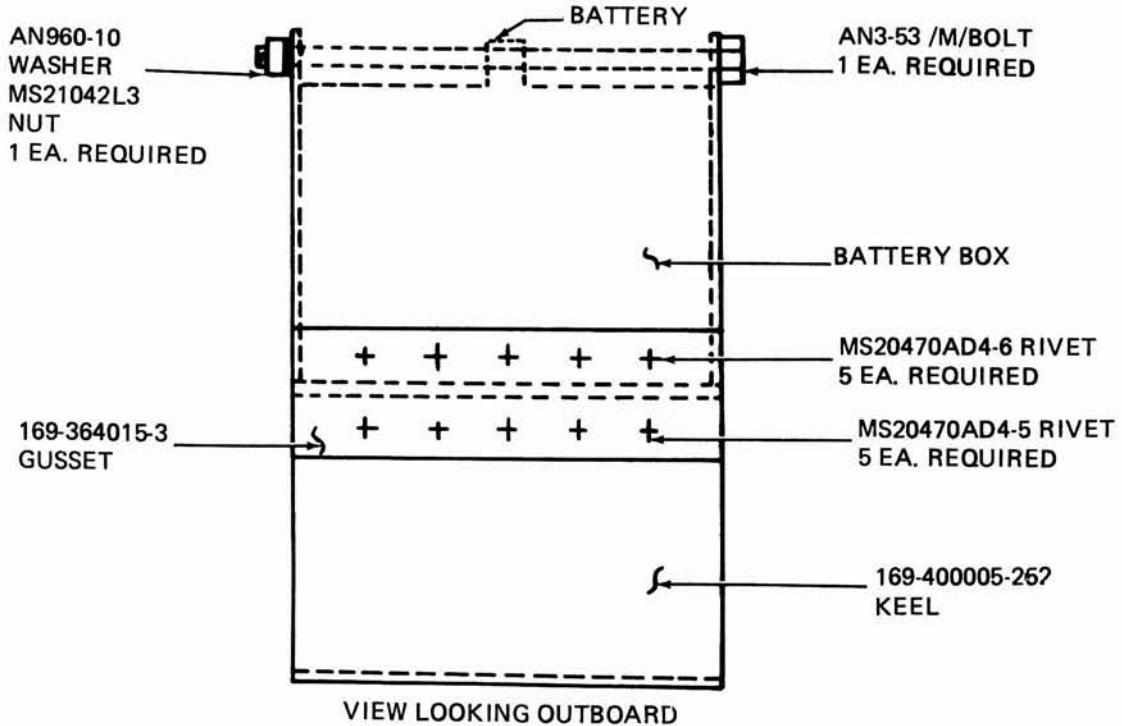

Figure 2
5. Align the 169-364015-3 gusset along the inboard base of the battery box with half of the gusset against the lower case and half against the 169-400005-252 keel. (See figure 2.)
7. Install the lower half of the gusset to the keel by drilling five .128/.133-inch diameter holes through the gusset and keel, and install with MS20470AD4-5 rivets. (Rivets may be obtained locally) (See figure 2.)